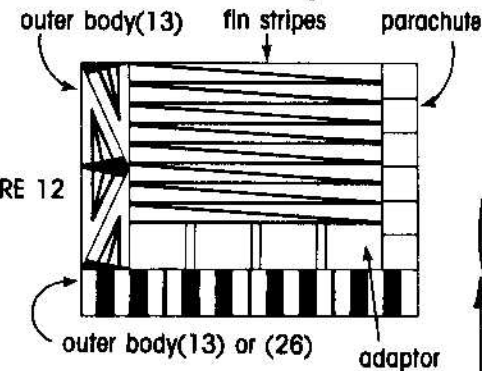

FIGURE 12
Carefully cut out Decals(24) with sharp knife and a straight edge (fig. 12). Remove paper backing and apply Decals as shown in figure 1. Note: Use ONE fin stripe per fin on Model RR-2 Main Stage and one per fin on Booster Stage. One or two Stripes per fin may be used on RR-1.